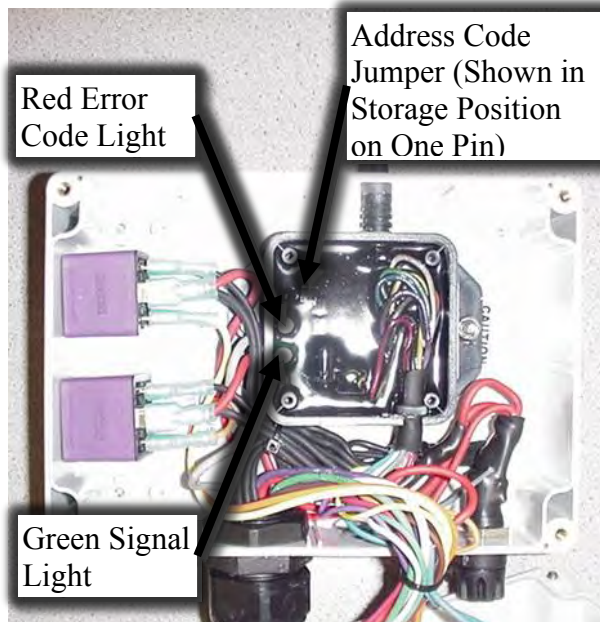

Figure 84 – Receiver in Complete Control Box with Covers Removed.
To set Discharge Start/Stop button to latching mode the remote must be in configuration mode. Remove the cover from the Receiver so the LED's are clearly visible (see Figure 84).
1. Remove the cover from both the Complete Control Box and the integrated Receiver (see Figure 84).